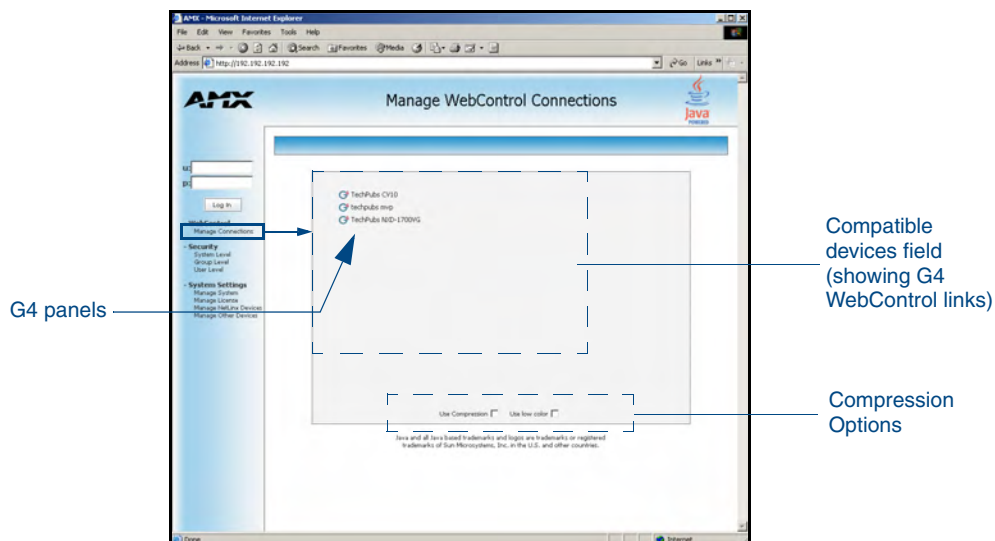

FIG. 33 Manage WebControl Connections page (populated with compatible panels)
5. This Manage WebControl Connections page (FIG. 33) is accessed by clicking on the **Manage connections** link (*within the Web Control section within the Navigation frame*). Once activated, this page displays links to G4 panels running the latest G4 Web Control feature (*previously setup and activated on the panel*).